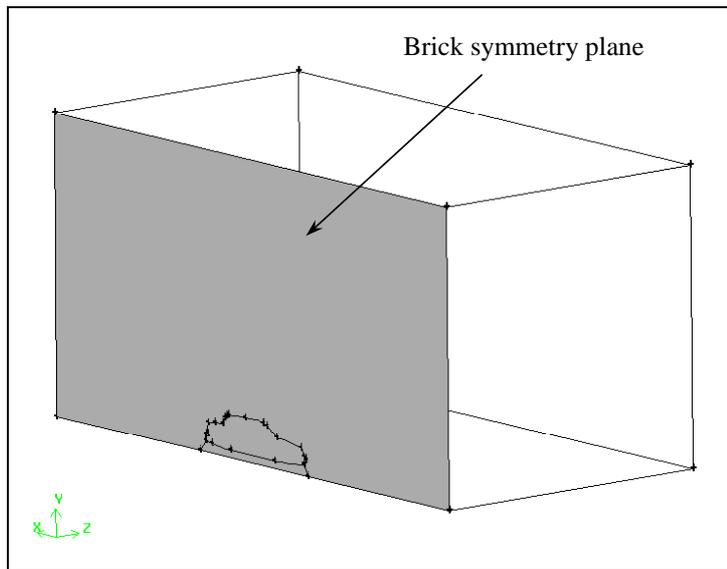

Figure 6-17: Brick symmetry plane
- e) Select (pick) the symmetry plane of the brick (see Figure 6-17).
- e) Select (pick) the symmetry plane of the brick (see Figure 6-17, above).
- c) Select the symmetry plane in the graphics window (as shown in Figure 6-17) and remember the label name (for example, *face.85*).